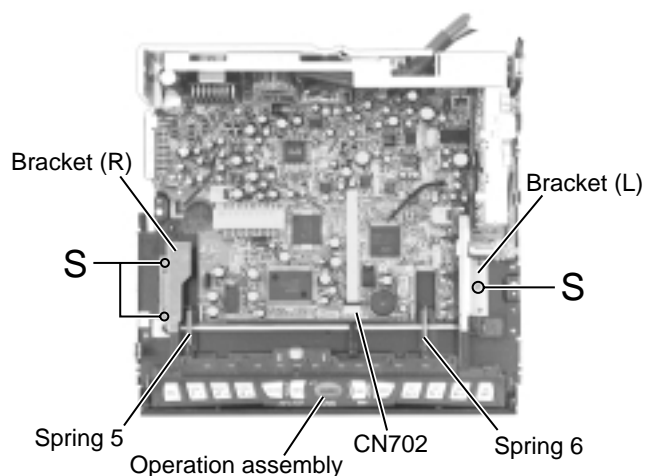

Fig.14
■ Removing the operation assembly (See Fig.14 to 17)